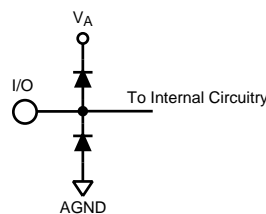

Figure 2.
- (1) The inputs are protected as shown below. Input voltage magnitudes above  $V_A$  or below GND will not damage this device, provided current is limited per Note 4 of the Absolute Maximum Ratings Table. However, errors in the A/D conversion can occur if the input goes above 2.6V or below GND as described in the Operating Ratings section. See Figure 2.
- (2) With a full scale differential input of  $2V_{P-P}$ , the 14-bit LSB is  $122.1\text{ }\mu\text{V}$ .
- (3) Typical figures are at  $T_A = 25^\circ\text{C}$  and represent most likely parametric norms at the time of product characterization. The typical specifications are not ensured.
- (4) Parameters specified in dBFS indicate the value that would be attained with a full-scale input signal.
- (2) With a full scale differential input of  $2V_{P-P}$ , the 14-bit LSB is 122.1  $\mu V$ .
- (3) Typical figures are at  $T_A = 25^\circ C$  and represent most likely parametric norms at the time of product characterization. The typical specifications are not ensured.
- (4) This parameter is specified by design and/or characterization and is not tested in production.
- (5)  $I_{DR}$  is the current consumed by the switching of the output drivers and is primarily determined by load capacitance on the output pins, the supply voltage,  $V_{DR}$ , and the rate at which the outputs are switching (which is signal dependent).  $I_{DR} = V_{DR}(C_0 \times f_0 + C_1 \times f_1 + \dots + C_{13} \times f_{13})$  where  $V_{DR}$  is the output driver power supply voltage,  $C_n$  is total capacitance on the output pin, and  $f_n$  is the average frequency at which that pin is toggling.